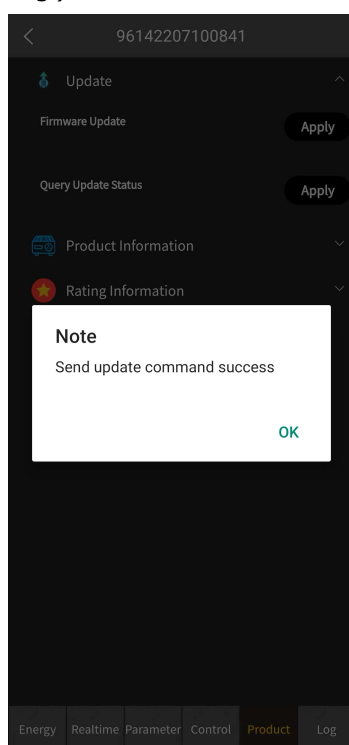

Figure 2
- (1) If the inverter is updating, the query result will be shown as in Figure 2.